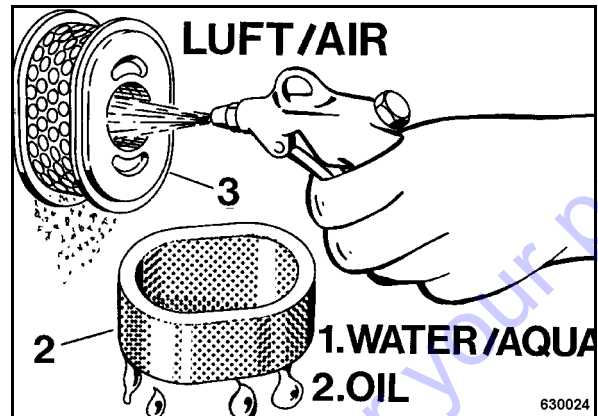

Fig. 33
- Clean the paper insert (3) (Fig. 33) carefully by light banging or blow it carefully out from inside to outside with dry, clean compressed air (max. 2 bar).
- Clean the foam insert (2) in warm soapy water, rinse it and let it dry thoroughly.